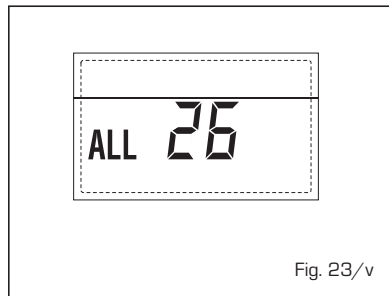

Fig. 23/v
- SOLAR APPLICATION COHERENCE ANOMALY "ALL 27" (fig. 23/w)